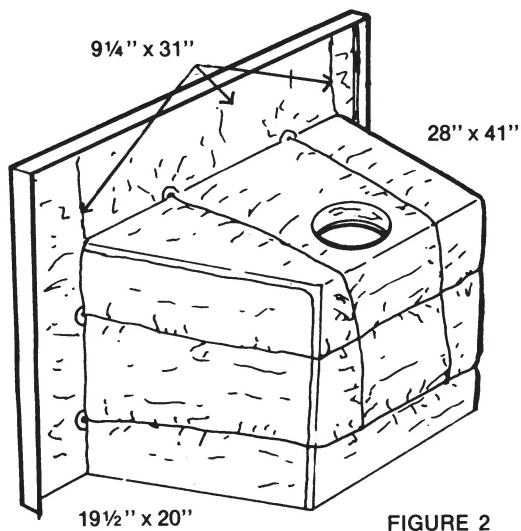

FIGURE 2
1. Wrap the fiberglass insulation supplied around the Flushmount as illustrated in figure 2.
2. Secure the fiberglass in place by tying the wire (supplied) to the washers on the side of the firebox. Loop wire around the back of the firebox and fasten to the washers on opposite side. Tie wires to the top washers on firebox and fasten to lower horizontal wire on back. Cut away the insulation and foil blocking the flue with a sharp knife. (See Figure 2)
4M. Pack the rear of the faceplate with the fibreglass insulation provided. (See Figure 2). Now push the Flushmount tight against the fireplace facing.